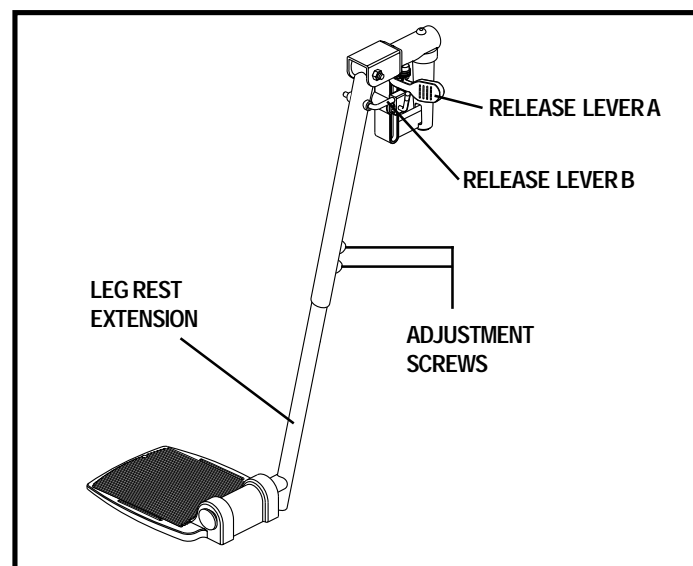

Figure 20. Elevating Leg Rests
1. Push in release lever A. See figure 20.
1. Remove the two adjustment screws from the back of each leg rest extension. See figure 20.
1. Push down release lever B. See figure 20.